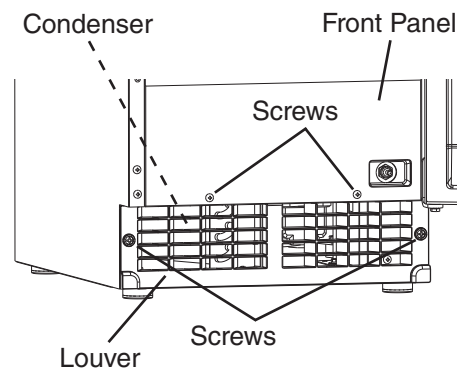

Fig. 48
2) Remove the 2 screws securing the front panel, then remove the panel. See Fig. 48.